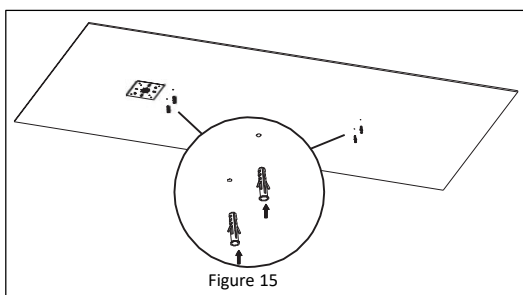

Figure 15
4. Drill the holes according to the marks and insert the supplied anchors. **See Figure 15.**